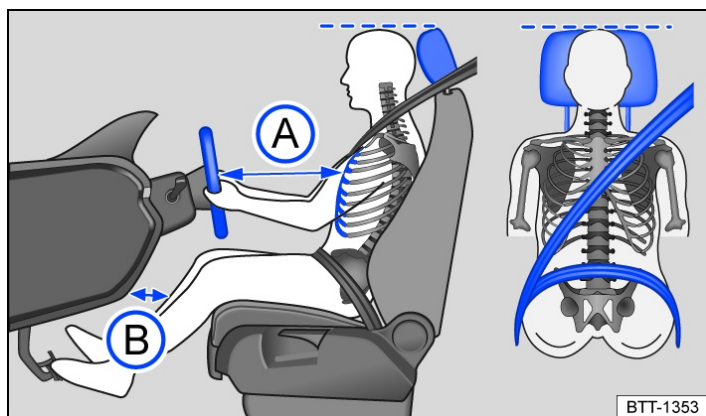

Fig. 1 Illustration: correct distance between the driver and the steering wheel, correct seat belt routing and correct head restraint adjustment.
- Adjust the head restraint so that its upper edge is at the same height as the top of the head, but not lower than eye level. Position the back of your head as close to the head restraint as possible at all times → Fig. 1.
- Adjust the seat so that the distance between the steering wheel and your breastbone is at least 25 cm (around 10 inches) → Fig. 1 (A) and the circumference of the steering wheel can be held at the sides with both hands and your arms slightly bent.